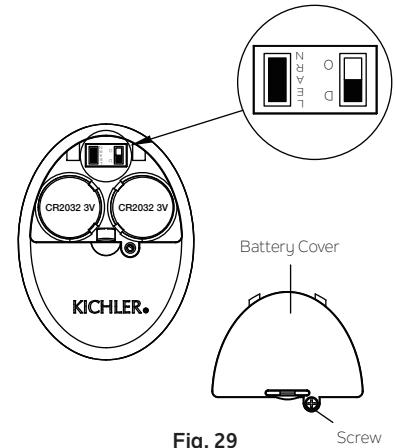

Fig. 29 Screw
Otherwise the remote control will not work. To perform this process manually, follow steps below: After installing and wiring the unit, restore power to your fan, press and hold the LEARN key for 1-3 seconds, the fan will turn on at medium speed and light (if installed) will turn on. This confirms that the learning process have been completed. This operation must be completed within 30 seconds after restoring power to the fan. (Fig. 29)
NOTE: Ensure slide switch in battery compartment marked “D O” is set to “D” position. (Fig. 29)
Step 4. Replace the battery cover and tighten with screwdriver. (Fig. 29)